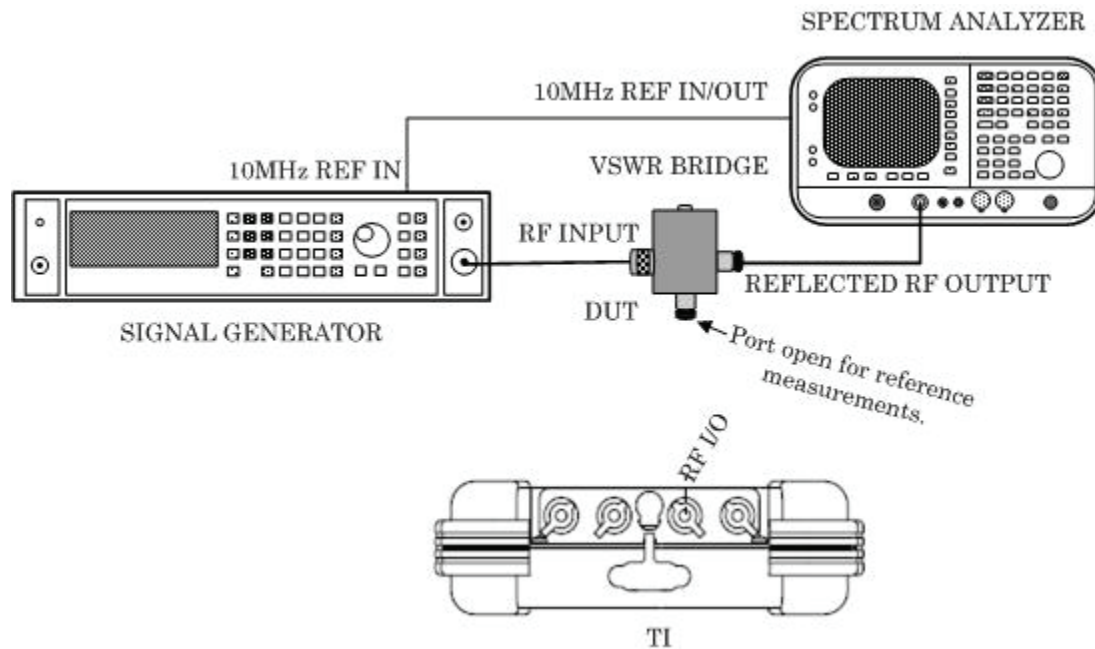

Figure 1. VSWR setup.
- (1) Connect equipment as shown in fig 1.
- (2) Set signal generator output level to 0.0 dBm.
- (3) Set signal generator to first frequency in table 10.
- (4) Setup spectrum analyzer to measure first frequency in table 10.
- (5) On spectrum analyzer, press **PEAK SEARCH**, **MARKER** and [DELTA] to set up delta marker reference measurement.
- (6) Connect VSWR bridge Device Under Test (DUT) port to TI **RF I/O** connector.
- (7) Spectrum analyzer delta marker will indicate within the limits in table 10.
- (8) Repeat steps (3) through (7) above for the remaining settings in table 10.